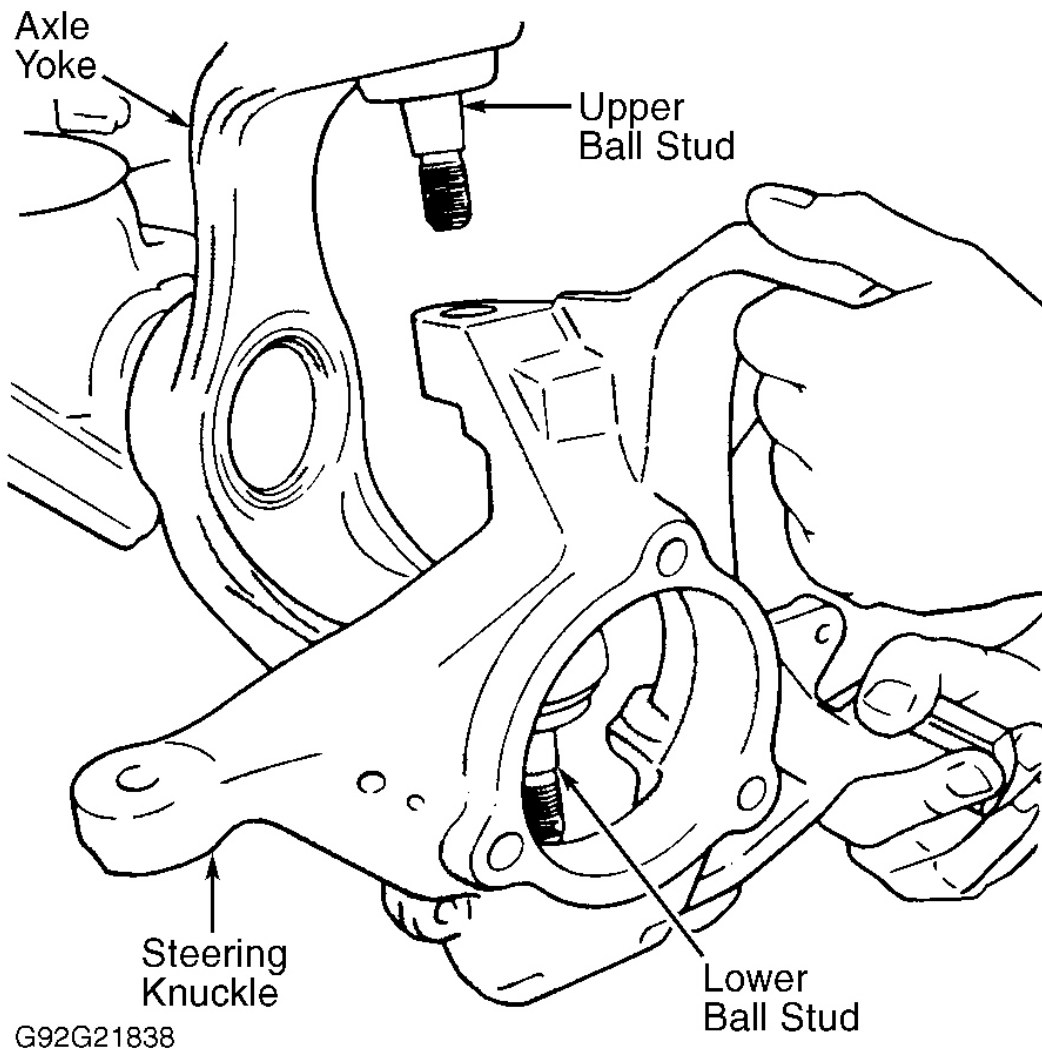

Fig. 2: Removing & Installing Steering Knuckle Assembly
2. On models with front axle shift motor, remove outer axle shaft from right axle tube. Leave shift collar on intermediate shaft. On all models, remove caliper anchor plate from steering knuckle. Remove steering knuckle and ball joint cotter pins. Remove ball joint nuts. Strike steering knuckle at ball joint stud boss with a brass hammer to loosen knuckle from ball joint studs. Remove steering knuckle. See **Fig. 2**.